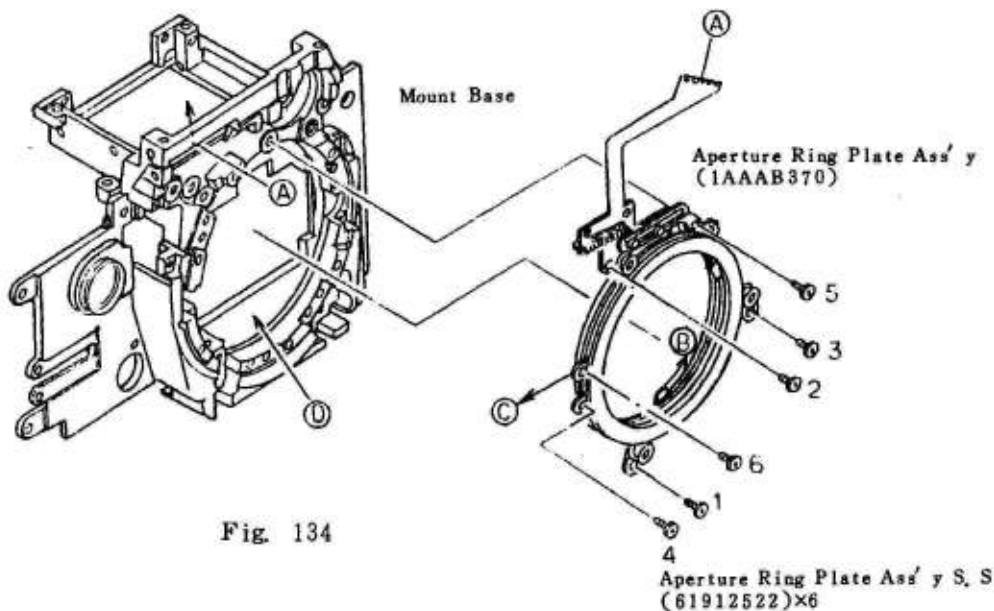

Fig. 134
1. Insert ④ of the open signal FPC from the side ④ in the Mount Base and install the Aperture Ring of the Aperture Ring Plate Ass'y (1AAAB370) in the direction indicated by the arrow ⑤ (open direction).
2. Tighten the Aperture Ring Plate Ass'y Setscrews (61912522)×6. (See Fig. 134)
Notes : a) Move to the left (in the direction of the arrow ③) and install the Aperture Ring Plate Ass'y, and tighten the Aperture Ring Plate Ass'y Setscrews in the order of ① through ⑥. (See Fig. 134)
c) Take care not to scratch the ① part of the Mount Base. (See Fig. 134)